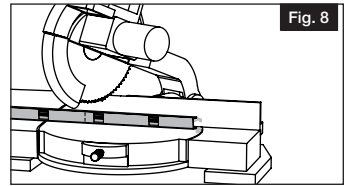

Fig. 8
- c. Align top and bottom rails and transfer your marks to the top rail. Then cut all rails to the same length with a 60 tooth or more carbide tip blade (Fig. 8)